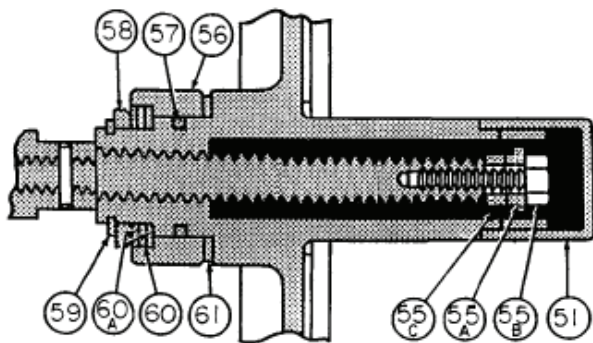

Figure 5 - Handwheel Detail, Actuator Sizes B & C
- A. Remove retaining clips (63) and push out pin (66). Make sure bushing (65) remains in the arm (64).
- B. Remove the pivot pins (72) and remove handwheel subassembly.
- C. Remove handwheel shaft subassembly (55) retaining ring (59) and unscrew nut (58). Remove needle bearing and race (60). Clean and check needle bearing and race for signs of wear. Replace if necessary.
- D. Remove handwheel pivot (56) and thrust washer (61). Check washer and replace if necessary. Check O-ring (57) and replace if necessary.
- E. Clean ACME threads on handwheel (54) and shaft S/A (55) and grease with Molykote G.
3.5.1.2 Reassembly (Figure 5)
- A. Install thrust washer (61) and O-ring (57). Apply silicone lubricant sparingly to O-ring.
- B. Slide handwheel pivot (56) onto the handwheel subassembly. Lubricate and install bearing race, needle bearing and outer race.
- C. Install nut (58) bevel side toward bearing race and screw down tight. DO NOT OVERTIGHTEN. Replace retaining ring (59). Correct assembly should have the nut (58) touching the retaining ring (47).
- D. Verify actuator stem (77) and rod end (94) are securely connected to lever (32) through pivot pin (39) and that retaining clips (40) are in place.
- E. Loosen tension nuts (96) evenly in sequence. Do not exceed three turns of any one nut (96) before proceeding to the next one. Do not vary the sequence.